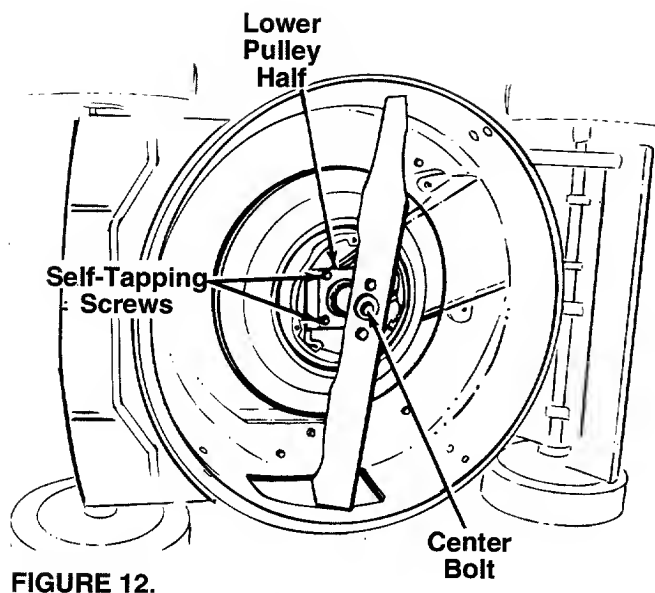

FIGURE 12.
6. Remove the center bolt which secures the blade to the crankshaft. See figure 12. Remove the blade and blade adapter.
7. Remove the two self-tapping screws which secure the lower pulley half. See figure 12.